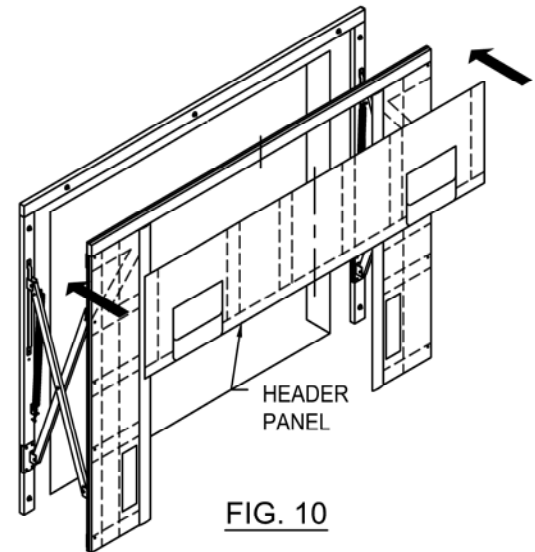

FIG. 10
- *Using #10x3/4" Dome-head tek screw and 1/4" washers; attach header curtain from center and work outwards by screwing beside each stay (fig. 10).